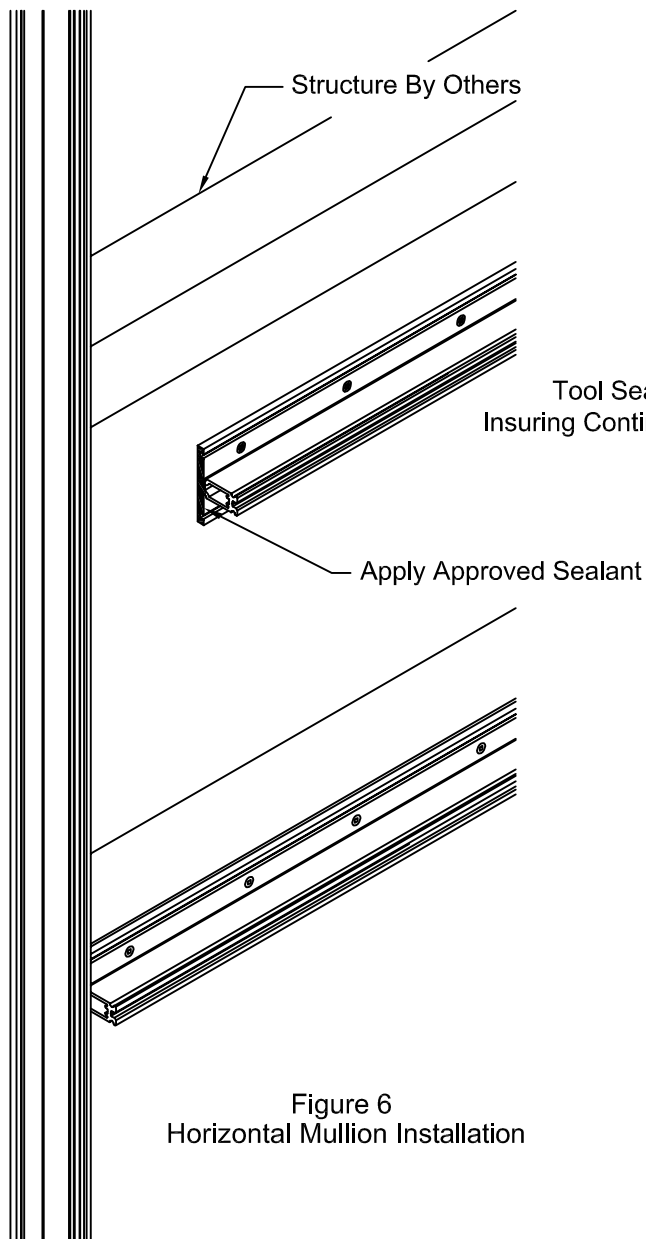

Figure 6
- 2.1.4 Prior to the installation of each horizontal member against the verticals apply approved sealant to the ends and insure a proper butt joint. See FIGURE 6.